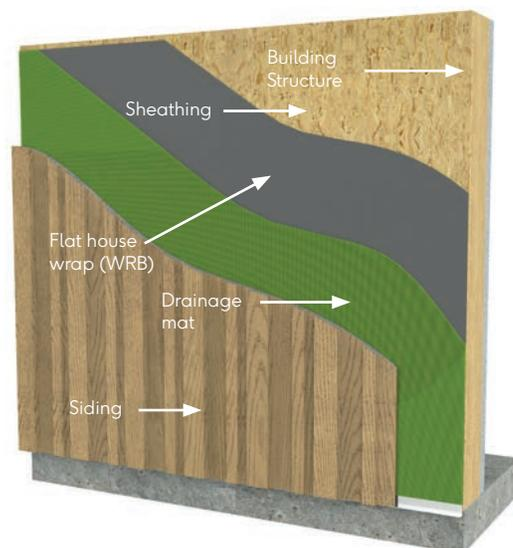

Fig.3 - Typical wall build-up with rainscreen drainage mat
1. Add a rainscreen drainage mat. This usually provides a 1/4" - 3/8" gap behind the boards. (Fig 3)